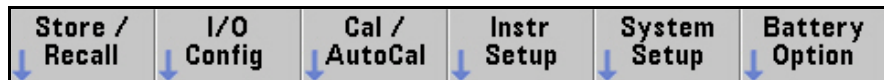

Figure 2-5 Oscillator calibration setup
- 4 Connect the frequency source (Q or not Q output) to Channel 1 on the counter front panel. See Figure 2-5.